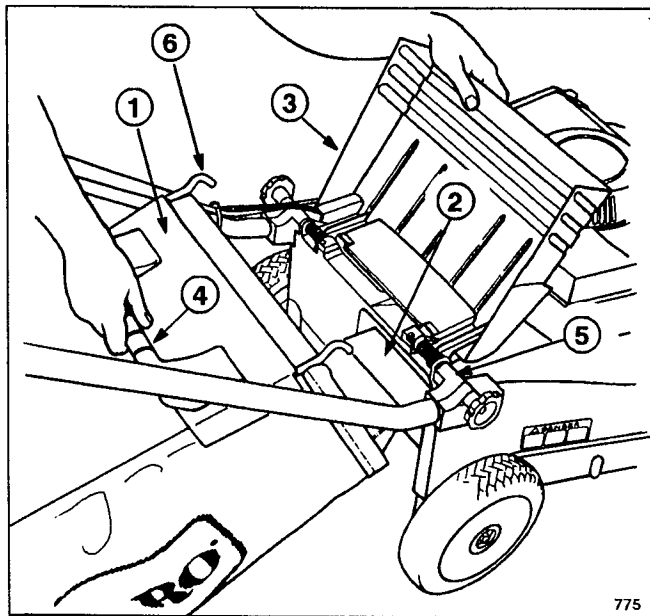
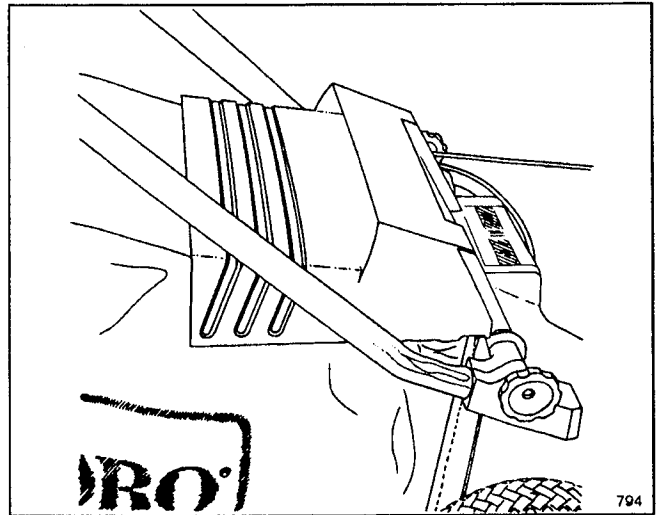

Figure 10
Figure 11
2. **INSTALLING BAG**—Raise discharge door, slide bag ramp attached to bag into discharge opening, and hook bag frame onto mounting brackets (Fig. 10). Allow discharge door to rest on top of bag (Fig. 11).